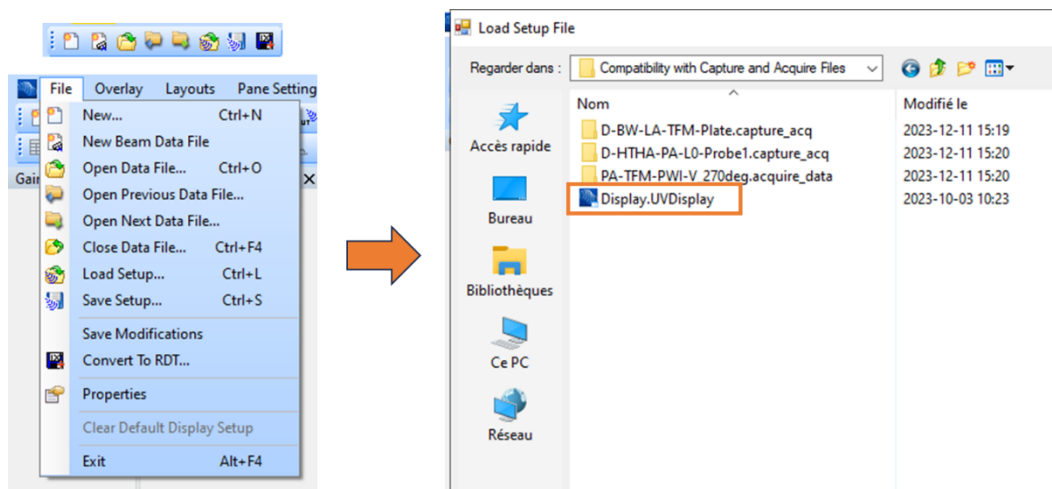

Figure 6 Loading views and UVDisplay file
- To load display settings which has already been configured and saved, use the Load Setup option from the File menu or the File toolbar and select the UVDisplay file of interest (see Figure 6).